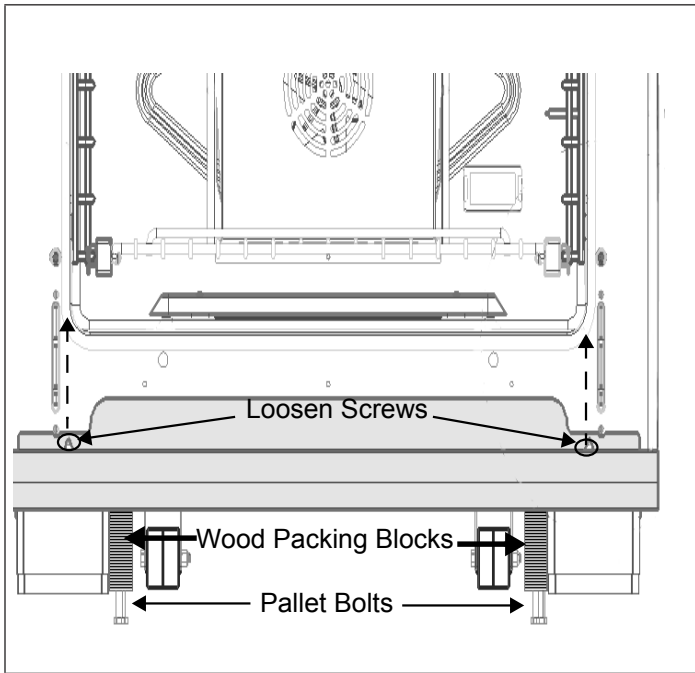

Figure 5: Door Trim, Packing Blocks, & Pallet Bolts
- All ranges are held to the pallet by (4) bolts through a wood block center (see Figure 5). The two front pallet bolts are accessible only after removing the Door Trim located beneath the doors.